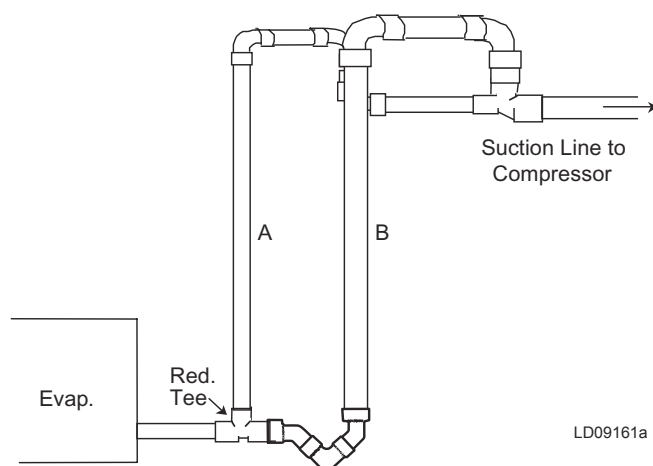

FIG. 6 –OIL TRAP INSTALLATION ON DOUBLE SUCTION RISER
4. **Traps** – When routing suction line piping, it is critical to minimize any large formed “traps” within the piping arrangement. The only traps that should be incorporated are the operating traps using short radius elbows at the bottom or top of vertical suction risers. Natural* traps between the evaporator and compressor will only harbor oil and liquid refrigerant during the compressor off cycle that will on startup, slug the compressor. Even small slugs over a period of time can fail a compressor (*Reference Section 4.4, Figure 6 and 7*).